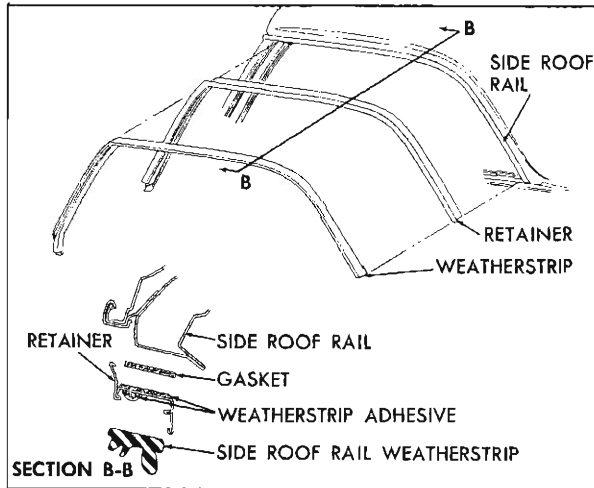

Fig. 56—Side Roof Rail Weatherstrip Assembly—47 Styles
2. Apply a continuous bead (approximately $\frac{3}{16}$ " diameter) of weatherstrip adhesive along entire outboard surface of side roof rail weatherstrip retainer (See Section "B-B" in Figure 56).